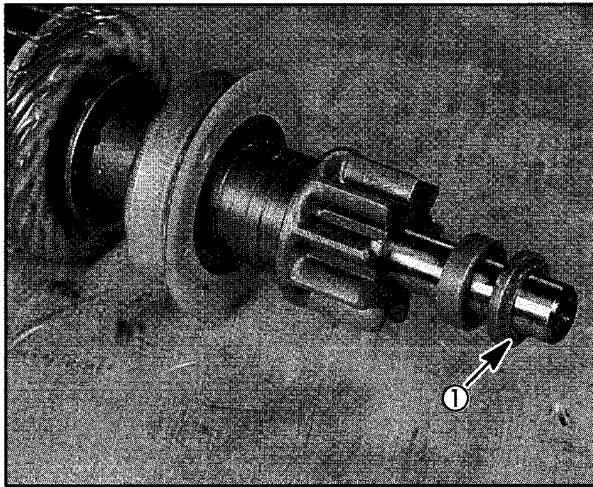

Fig. 41
5. Assemble spacer to armature shaft, **Fig. 41**.
**NOTE:** Lip (1) on spacer must face bearing in drive end cap.